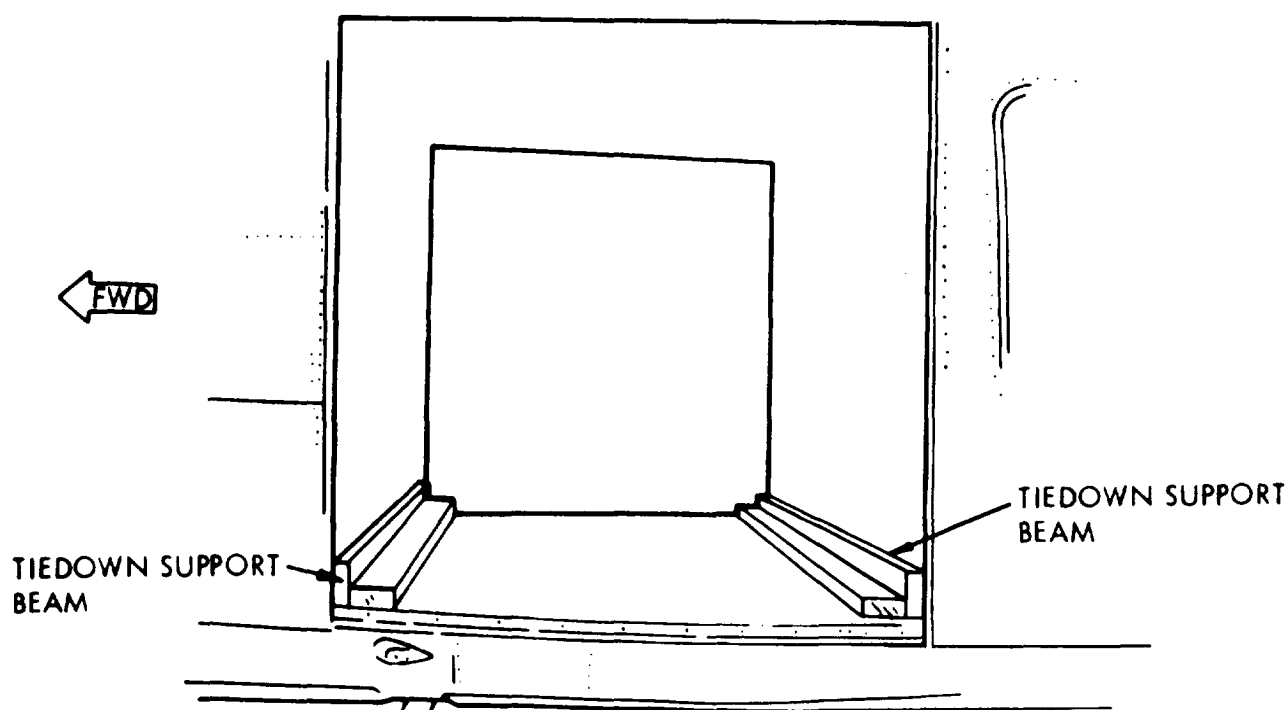

Figure 2-2. Tiedown Support Beams.
It is extremely important that the L-shaped tiedown support beam is placed across the cargo compartment exactly as shown in figure 2-2. To ensure that the tie-down beam is installed properly, the joint formed by the nailed together lumber must run vertically and not horizontally. If the tie-down beam is improperly installed and severe turbulence is encountered the joint will open, and the chain will slip between the joint and become slack.
(2) If a UH-1 is shipped without side-saddle kit, prepare two tiedown support beams for each helicopter using four pieces of 2x6x100-inch lumber. Nail two pieces together to form a L-shape. Install the beams across helicopter cargo compartment (Figure 2-2) before placing disassembled components in cargo compartment.
Because of mission equipment installed in the cabin, only a single, lateral tiedown beam (figure 2-2) can be used when tying down the EH-1X.